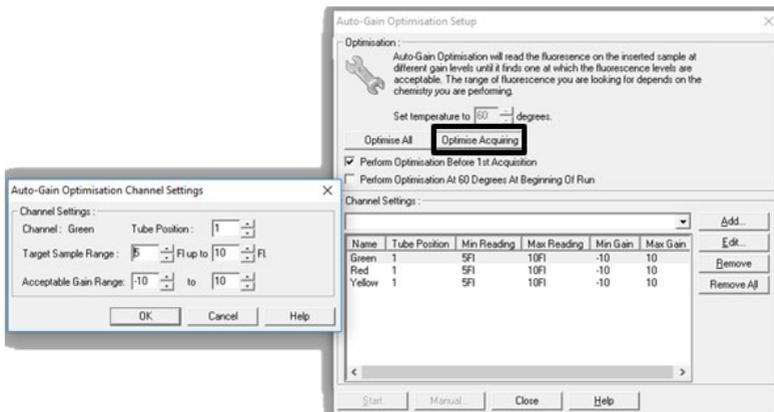

Figure 19. Gain Optimisation settings.
25. In the “Auto-Gain Optimisation Setup” dialog box, click **Optimise Acquiring** (Figure 19). “Channel settings” are then displayed for each channel. Click **OK** to accept these values for both channels according to the parameters defined in Table 5.